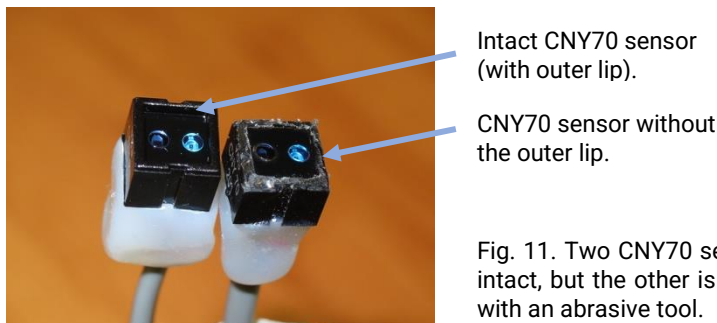

Fig. 11. Two CNY70 sensors side by side. The one on the left is intact, but the other is missing its outer lip, which was removed with an abrasive tool.
6. If you are using a brand-new sensor in an animal with a thick shell, you may consider shaving off the outer plastic edge of the sensor with sand paper or a Dremel abrasive tool in order to obtain a flat surface (**Fig. 11**), or to shave part of the shell wall to make it thinner.
- (Optional) Shave the outer plastic lip of the sensor with a Dremel abrasive rotary tool to flatten the face of the sensor (**Fig. 11**).